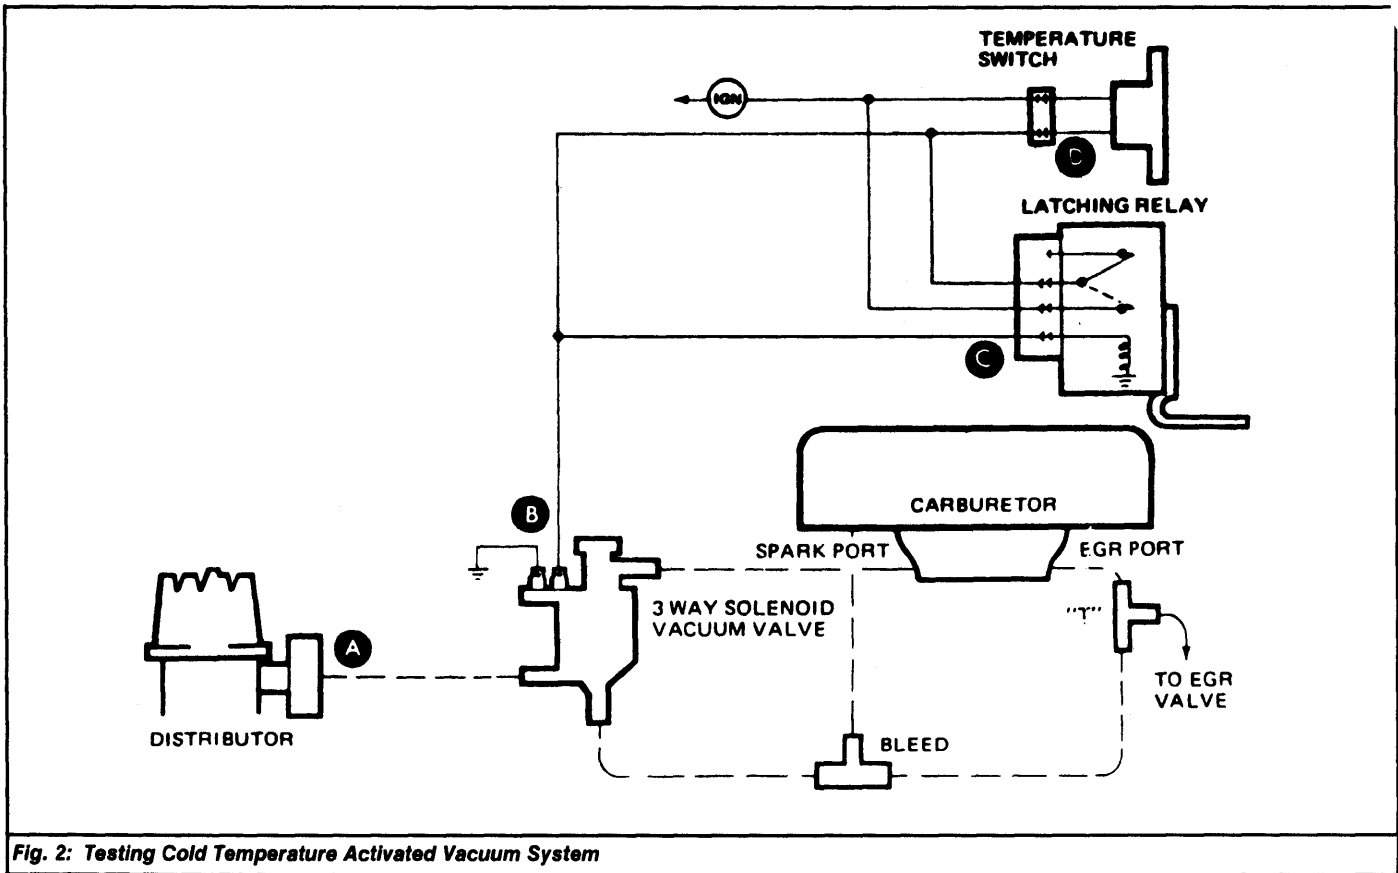

Fig. 2: Testing Cold Temperature Activated Vacuum System
- 1) Connect a tachometer to engine. Connect a vacuum gauge to hose at point "A". Ensure that temperature sensing switch is over 65°F (18°C). Disconnect lead at point "B". See Fig. 2.
- 1) Attach a grounded test light at point "B". Disconnect connector at point "D" and turn ignition on. See Fig. 2. There should be no light, if there is a light, replace latching relay.